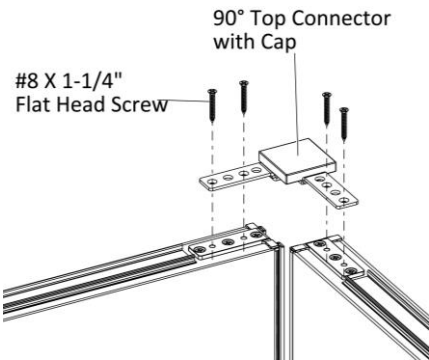

Figure 8
- 14. Position the 90-degree top connector with a cap on the top corner of the panel which is to be connected, (Figure 8).